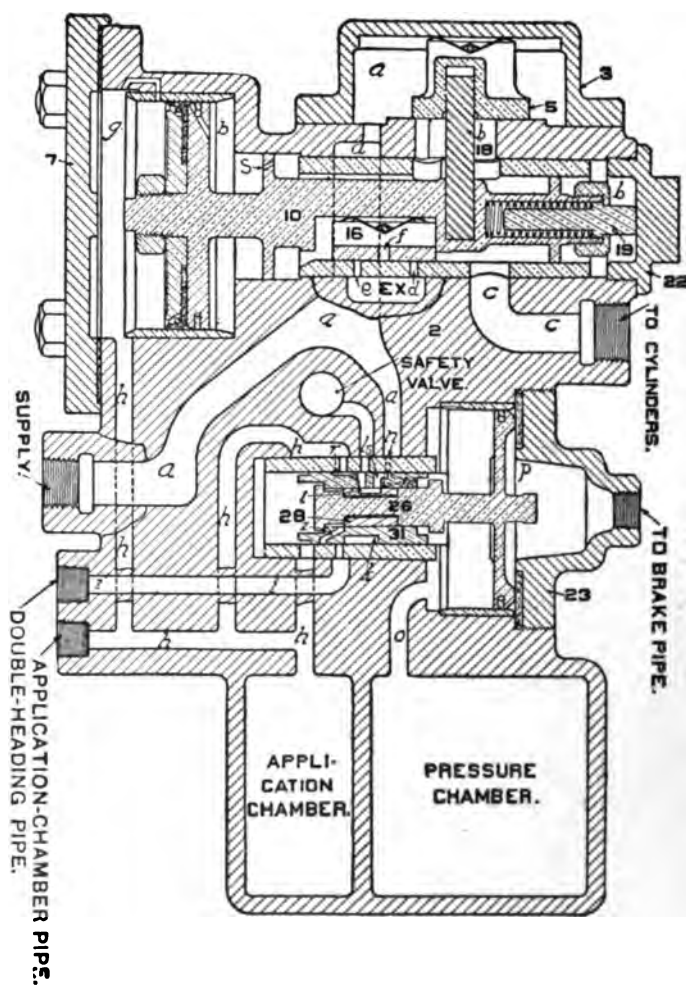

FIG. 276. EMERGENCY LAP
**EMERGENCY LAP.** The above conditions continue until the brake cylinder pressure equals the *application-chamber* pressure, when parts of the valve assume the position known as the *Emergency Lap* and shown in Fig. 276.